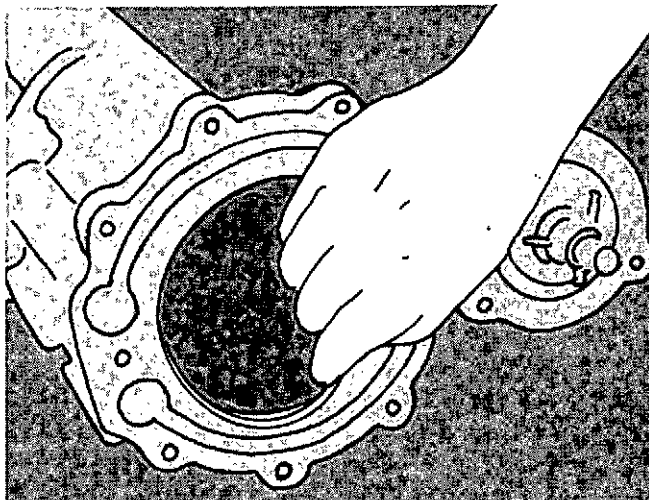

Fig. 7-34. Install The O-Ring Into The Thermostat End Of The Housing.
4. Install the O-ring into the groove at the thermostat end of the housing, Fig. 7-34.